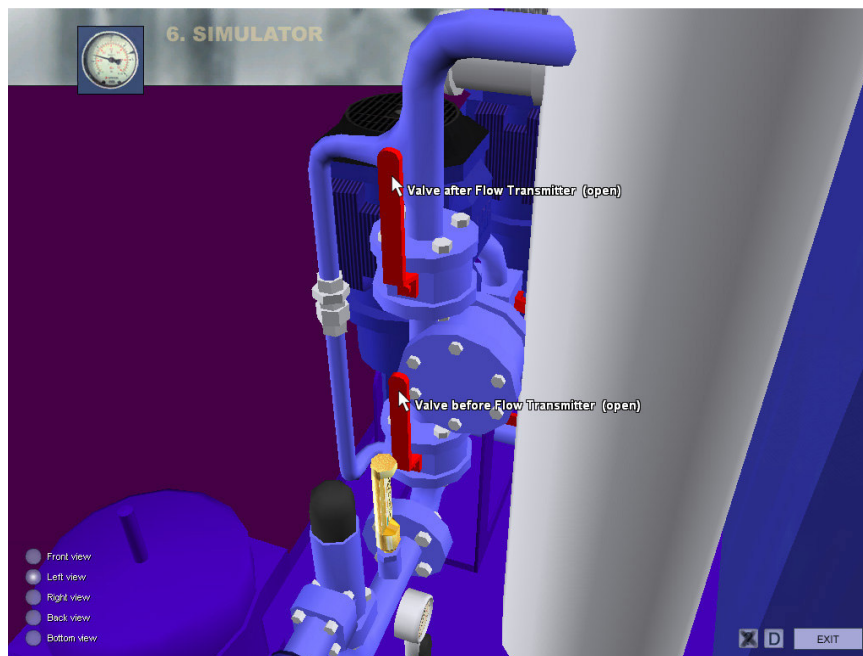

Fig. 15. Left view - Flow transmitter with by-pass and valves
2. Open valves before and after the Flow meter (fig. 15).